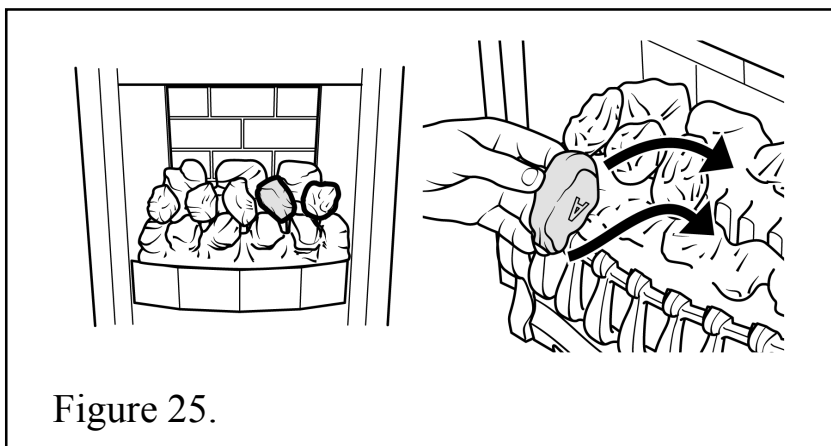

Figure 25.
8. Place the remaining type “A” coal between the front and rear base coals. The letter “A” should be upside down with its rear face between the right and centre coals of the rear base coal. Angle the coal so that the gap between it and the type “B” coal to its right is appreciably larger than the gap between it and the type “A” coal to its left but do not have it touching the type “A” coal. This will give the best flame effect. See figure 25.